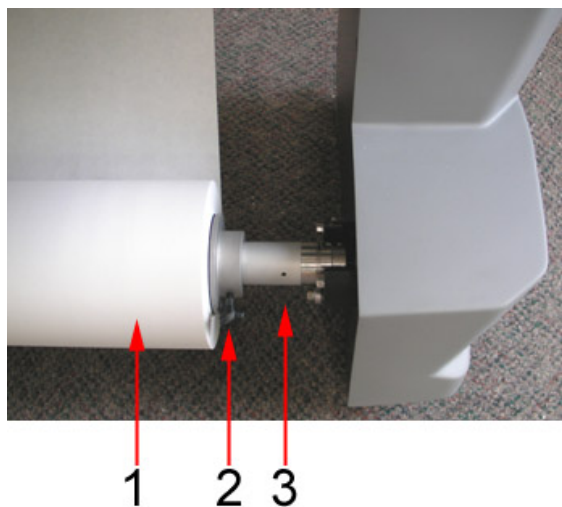

Figure 17. Paper on Feed Roll Bar with Mandrel
18. Place **Mandrels** on each end of the **Feed Roll Bar** and use the attached black levers to tighten next to the **Paper Roll** (Figure 17).